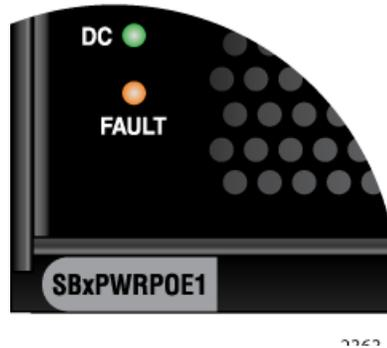

Figure 55. Verifying the AT-SBxPWRPOE1 PoE Power Supply
4. Check the model name, shown in Figure 55, to verify the module.